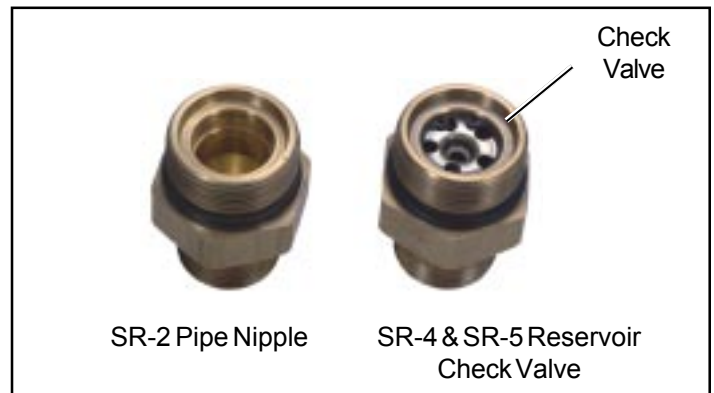

Figure 2 - Reservoir check valve and pipe nipple comparison
be used to service the SR-2 provided the **reservoir check valve(1) is not installed in place of the SR-2 pipe nipple.** Refer to Figure 2.